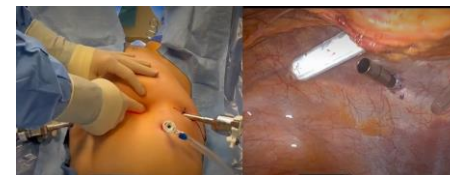

Figure 4 - Inserting the StitchKit® device through incision
- 4.3. Alternatively, StitchKit may be placed through one of the 8 mm trocar sites under direct endoscopic visualization by removing one of the 8mm trocars and pushing StitchKit into the surgical field through that incision then replacing the trocar (Figure 4)—all under direct endoscopic visualization. When inserted this way, the resultant location of StitchKit should be noted, and the surgeon should retrieve StitchKit immediately after docking the robot and sitting at the surgeon console.